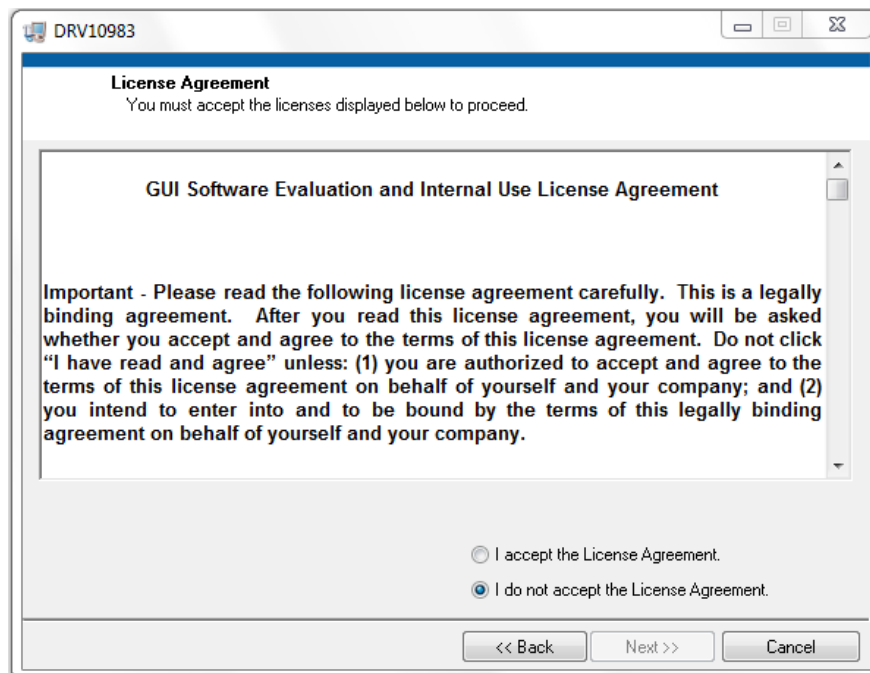

Figure 1-4 License Agreement
3. The License Agreement will appear as shown below in Fig.1-4.